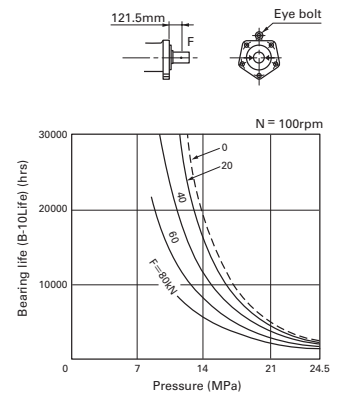

Fig. 3
- In order to maintain the maximum bearing life, when a radial load is imposed on the output shaft the motor should be installed as illustrated in Fig. 2 or Fig. 3; For a uni-directional application, motor should be installed so that side load acts as shown in Fig. 2. For a bi-directional application, a radial load for each rotational direction being applied, the motor should be installed so that side loads act as shown in Fig. 3.